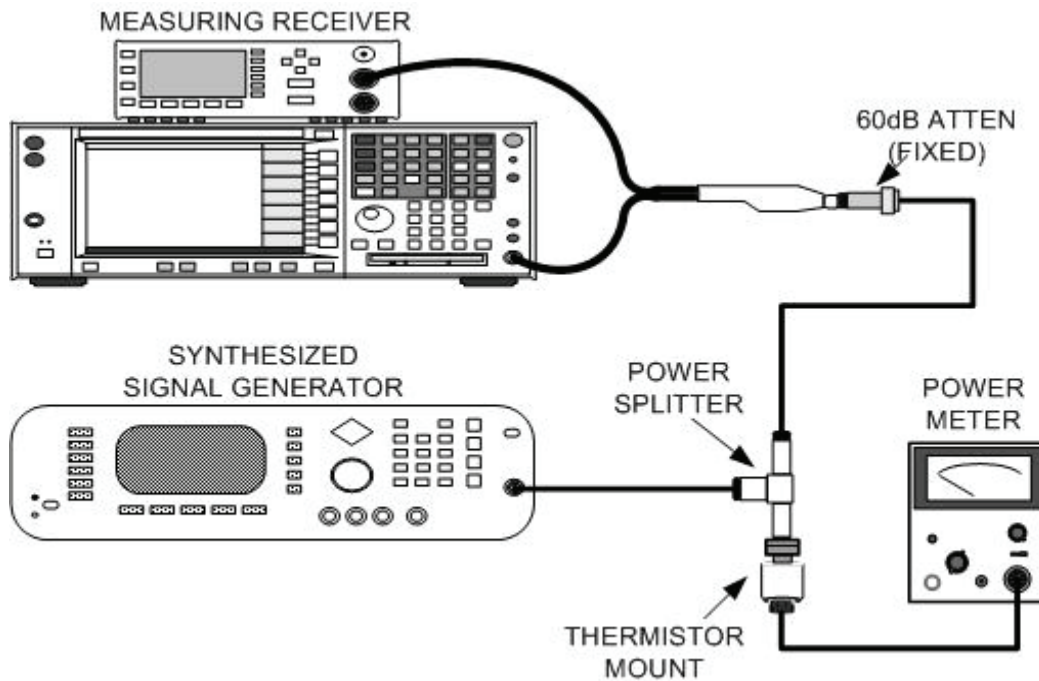

Figure 1. Receiver system reference – equipment setup.
e. Connect equipment as shown in figure 1.
- (2) Adjust synthesized signal generator frequency controls to 11 GHz and adjust level output controls for -25 dBm indication on power meter. Record synthesized signal generator level indication.
- (3) Connect equipment as shown in figure 1.